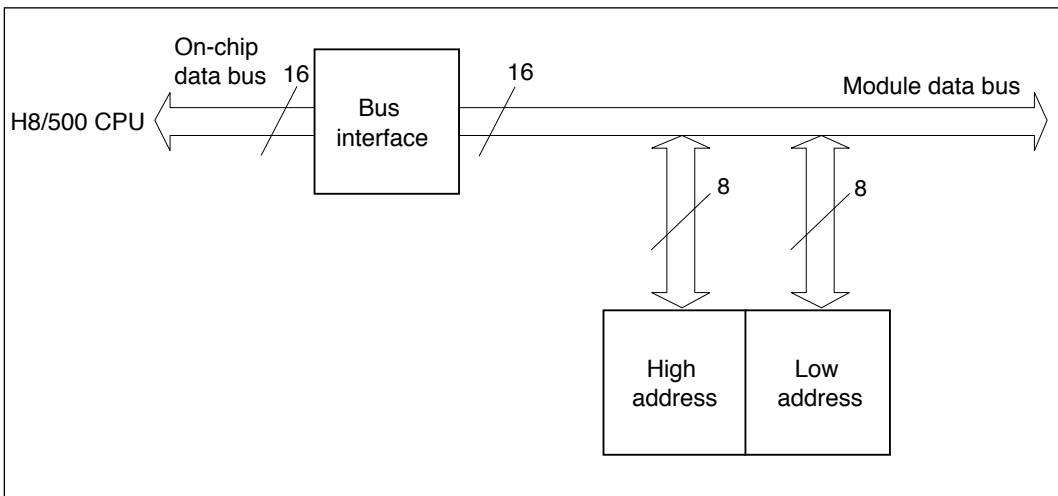
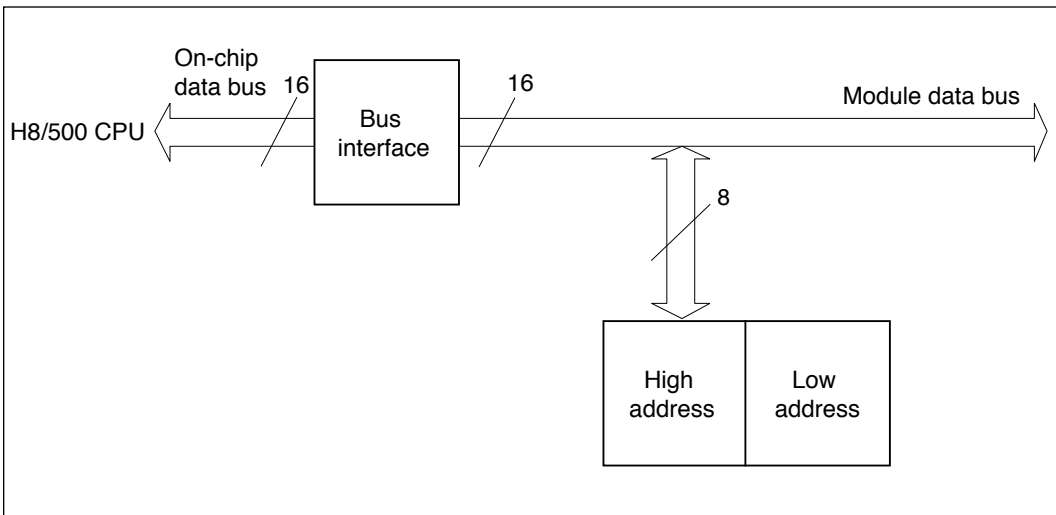
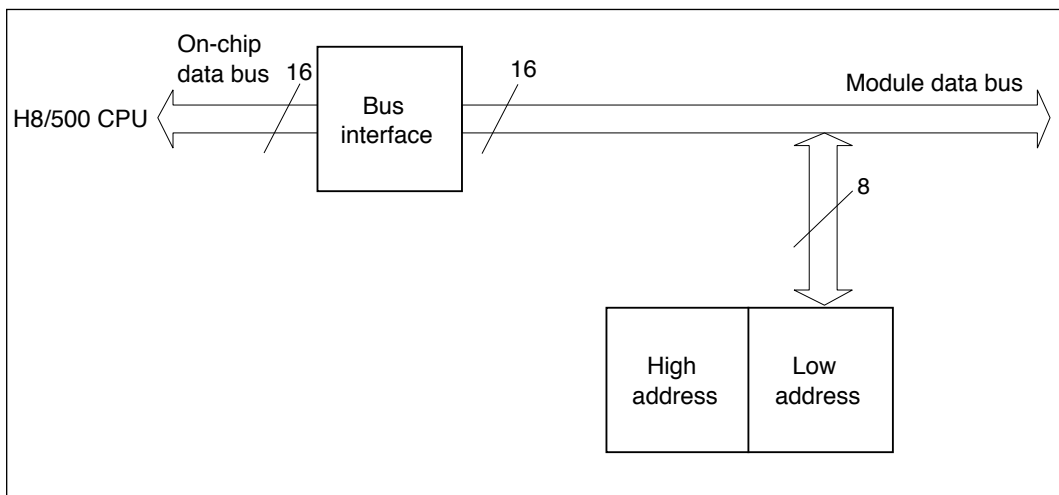

Figure 10-7 Word Read/Write Operations
Figure 10-8 Upper Byte Read/Write Operations
Figure 10-9 Lower Byte Read/Write Operations
- Read and Write Operations:** Timer counters, general registers, and dedicated registers can be written and read a word at a time or a byte at a time. Figure 10-7 illustrates word read/write operations. Figure 10-8 illustrates upper byte read/write operations. Figure 10-9 illustrates lower byte read/write operations.